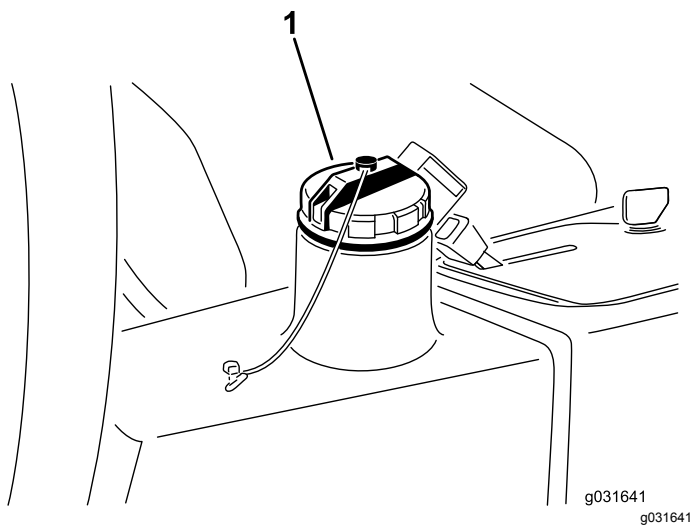

Figure 66
4. Fill the reservoir (Figure 66) with approximately 13.2 L (3.5 US gallons) of hydraulic fluid; refer to Checking the Hydraulic System \(page 51\).